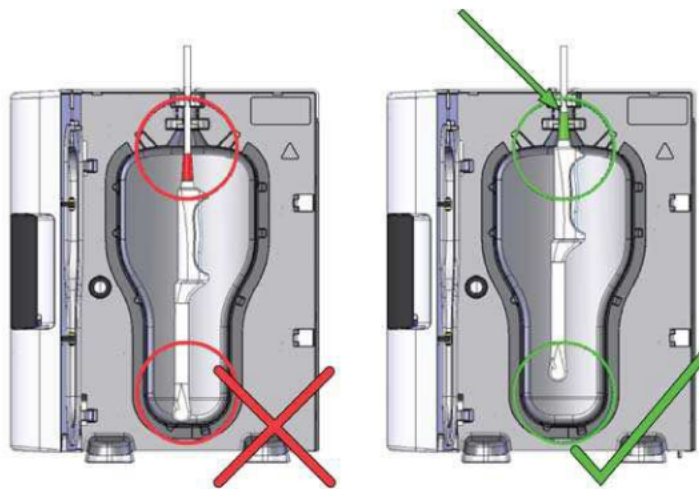

Figure 13
- Hold the probe by its handle, press the top of the PROBE GLAND into the gland seal - Figure 13(a) and Figure 15
4. Additionally the probe shall be suspended with the tip located no lower than the line across the chamber (see Figures 13 & 14)